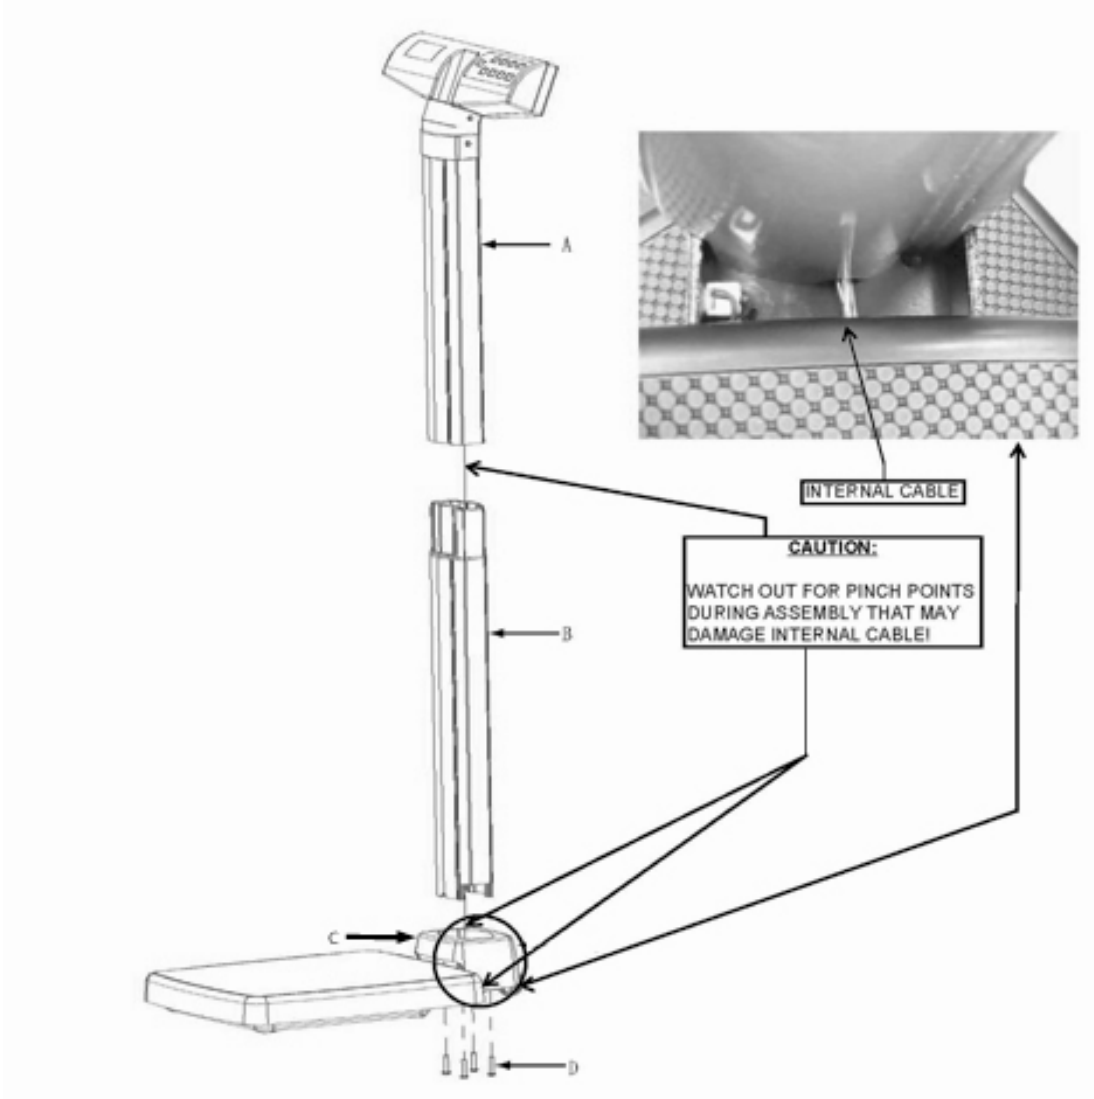

Figure 1
Plug the optional adapter (NOT INCLUDED) into the base of the scale and then into the outlet for power. Please refer to page 3 for information regarding the adapters available for use with this scale. When an adapter is used, the battery icon will not be displayed. The location of the adapter power jack on the scale (C) is shown below in Figure 1.
1. Locate cable inside the upper column (A) and then feed it through the lower column (B).
2. After the cable is fed through (B), then plug the cable into the scale base (C).
3. Connect columns (A) and (B), then secure to base (C), using the 4 screws provided (see Figure 1).